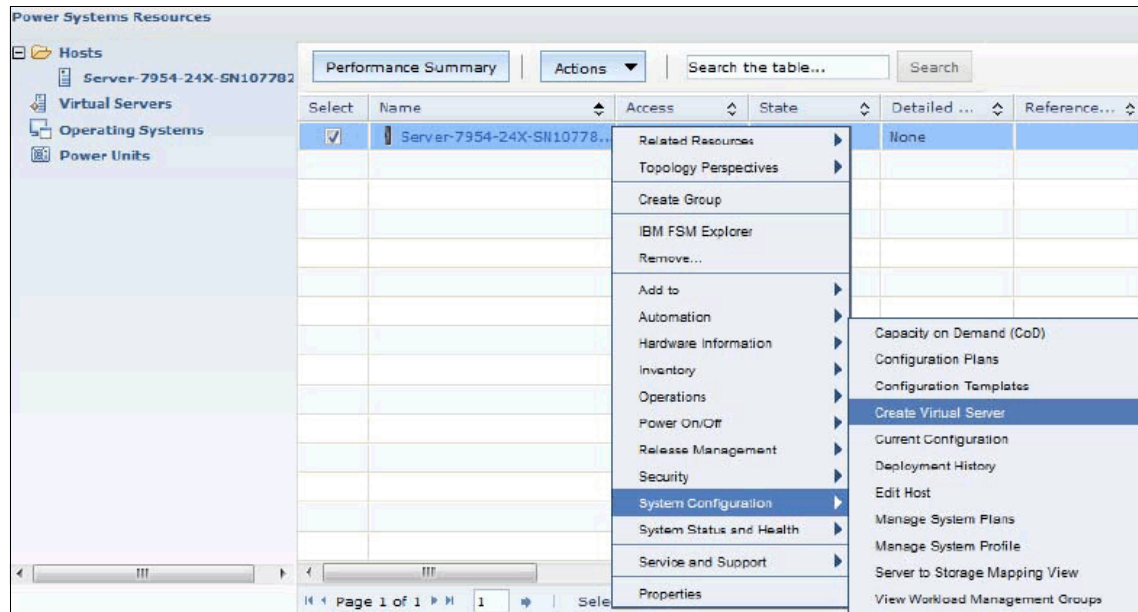

Figure 11-2 Creating a Virtual Server
1. Create the IBM i client virtual server definition. On the FSM GUI under the Manage Power System Resources tab, right-click the host server on which you want to create the client and select **System Configuration** → **Create Virtual Server**, as shown in Figure 11-2. The Create Virtual Server wizard starts.